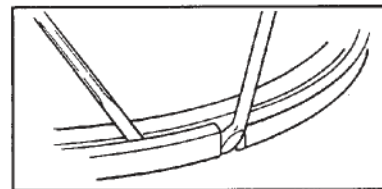

Figure 6
1. Remove the lock ring with two pry bars. Start at the split in the ring and then work the tools around the ring (See Fig. 6.)